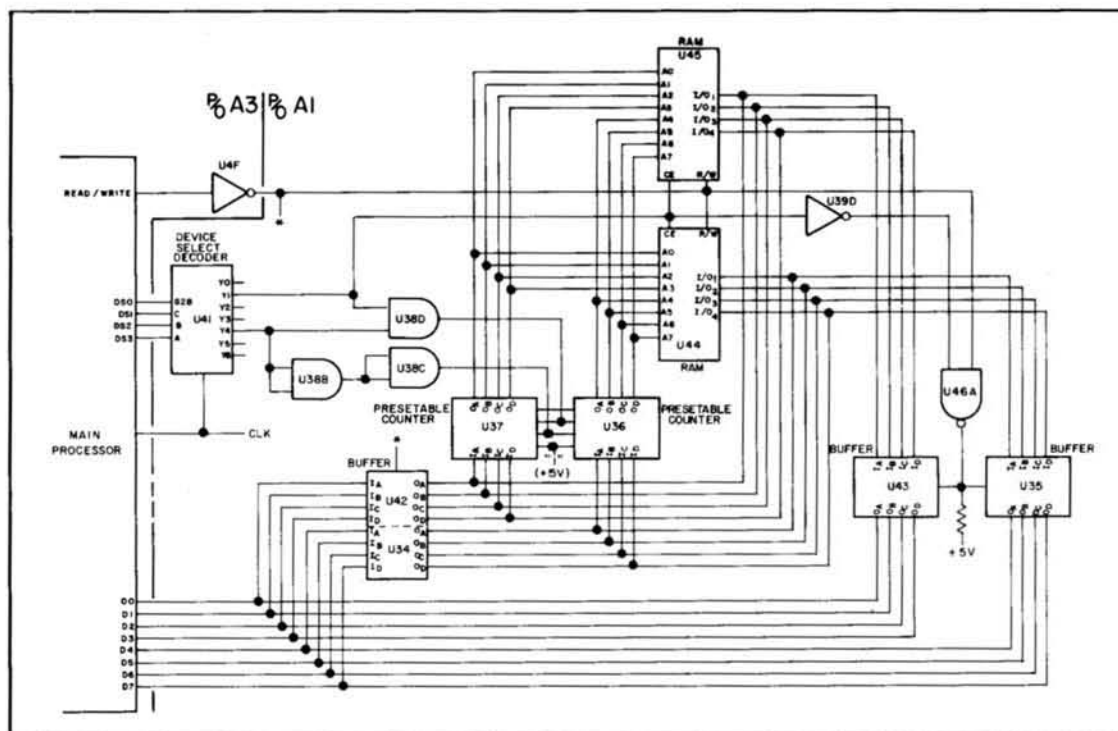

Figure 8-39. Main Controller RAM Circuit.
**8-123. RAM Circuit.** The RAM's are used to store temporary data such as auto-cal constants, display data, front panel and HP-IB status codes, math computations and references, and control status codes. Figure 8-39 is a schematic diagram of the main controller RAM circuit. The RAM's can be set to a particular address by the main processor or are automatically incremented to the next memory address each time data is stored or read. This method allows groups of data to be transferred between the RAM's and main processor without having to address each step and results in higher operating speed.